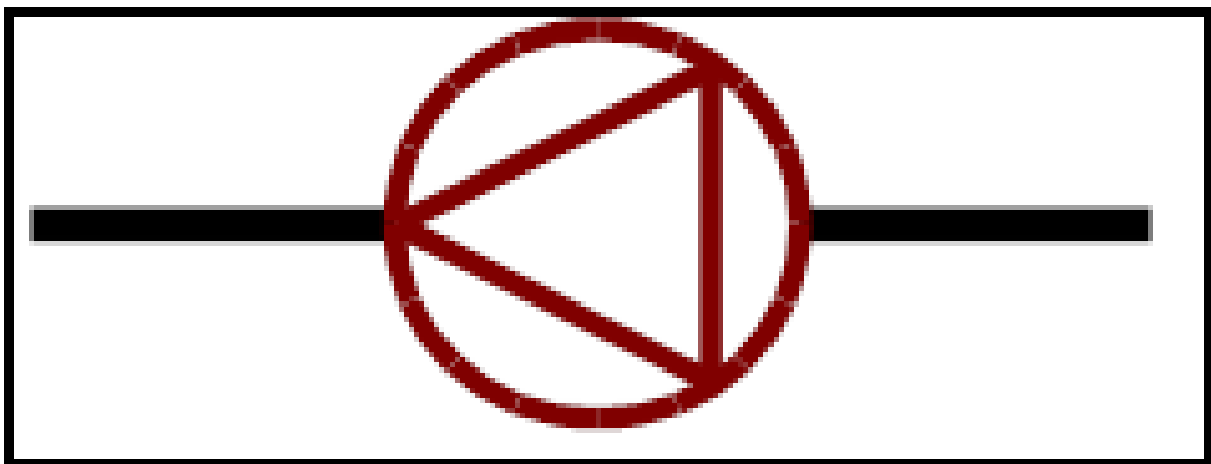

Figure 4.4: A component in the loop
4. **Identify the components in the system.** While identifying the main components in the loop, it should be noted that this loop has a primary/secondary pumping setup, and that there is a common pipe that allows for flow imbalance. (Note: The *PlantLoop* object in EnergyPlus has a provision for the input of a common pipe. The user only has to specify the existence of a common pipe in the loop, and the program calculates its position in the loop). The primary pump is shown below is shown in Figure 4.4.